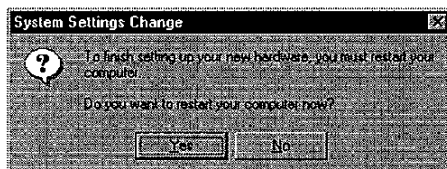

Figure 16. System Settings Change
step7. The *System Settings Change* dialog box will ask you if you want to restart your computer (**Figure 16**). Remove the floppy disk from the floppy drive and click *Yes*